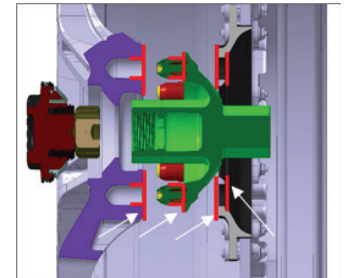

Figure 4
6. If any anti-corrosion oil is present from manufacturing on any mating surfaces (marked in red with white arrows in Figure 4), on new or old parts, clean the parts with a microfiber cloth and brake parts cleaner. Document presence of anti-corrosion oil with pictures.